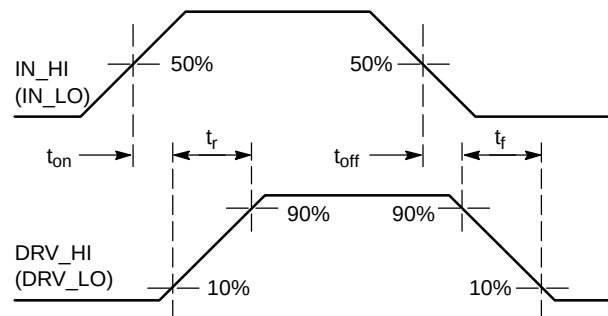

Figure 7. Propagation Delay and Rise / Fall Time Definition
5. Timing diagram definition see: Figure 7, Figure 8 and Figure 9.